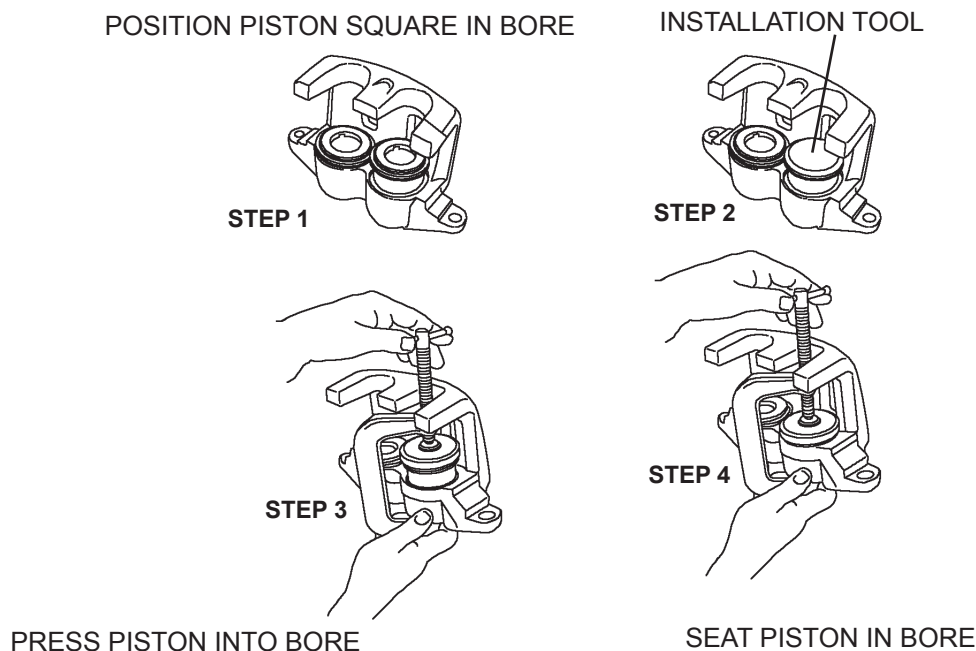

Figure 23. Pressing Pistons into Caliper Bores
- Using a C-clamp and piston insertion tool, gently press both pistons into the bore until they are fully seated into caliper (refer to *Figure 23, Step 4*).
1. Apply DOT 3 or DOT 4 hydraulic brake fluid to outside of piston and carefully position piston with piston boot into caliper bore (shown in *Figure 23, Step 1*).
2. Position the piston and boot installation tool 0204102034 for a 2x66mm brake or 0204102033 for a 2x73mm brake (optional piston and boot installation tools ZTSE4417 for a 2x66mm and ZTSE4418 for a 2x73mm) on top of a piston and piston boot so the word “BOOT” or “BOOTSIDE” is on the underside of the tool toward the piston (shown in *Figure 23, Step 2*). Be sure to match the correct tool for the pistons being installed.
3. Using a C-clamp or arbor press, **gently** press the piston past the piston seal and partially into the bore (shown in *Figure 23, Step 3*). Avoid cocking or binding piston during installation. (If the piston does not press into the bore smoothly, the piston is cocked in the bore and will need to be repositioned to better align the piston with the caliper piston bore.) Continue pressing the piston and piston boot into bore until they are fully seated into caliper (shown in *Figure 23, Step 4*).